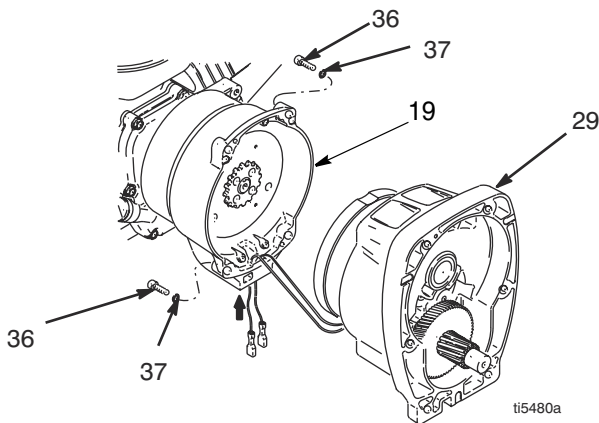
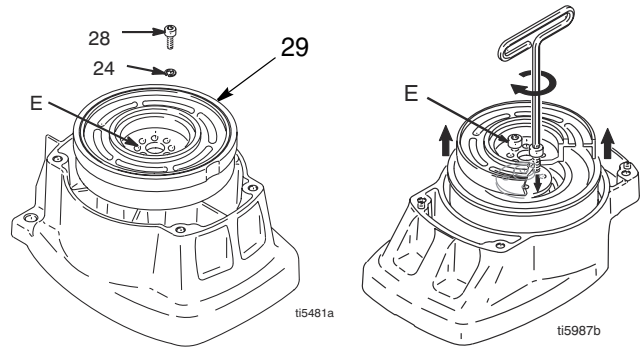

FIG. 4
FIG. 5
2. FIG. 4. Disconnect clutch cable connectors from inside of pressure control.
3. FIG. 4. Remove four screws (36) and pinion assembly (29).
4. FIG. 5. Place pinion assembly (29) on bench with rotor side up.
5. Remove four screws (28) and lock washers (24). Install two screws in threaded holes (E) in rotor. Alternately tighten screws until rotor comes off.
9. FIG. 5. Place pinion assembly on bench with rotor side up.
10. Apply thread sealant to screws. Install four screws (28) and lock washers (24). Alternately torque screws to 125 in-lb until rotor is secure. Use threaded holes to hold rotor.
11. FIG. 4. Install pinion assembly (29) with four screws (36) and washers (37).